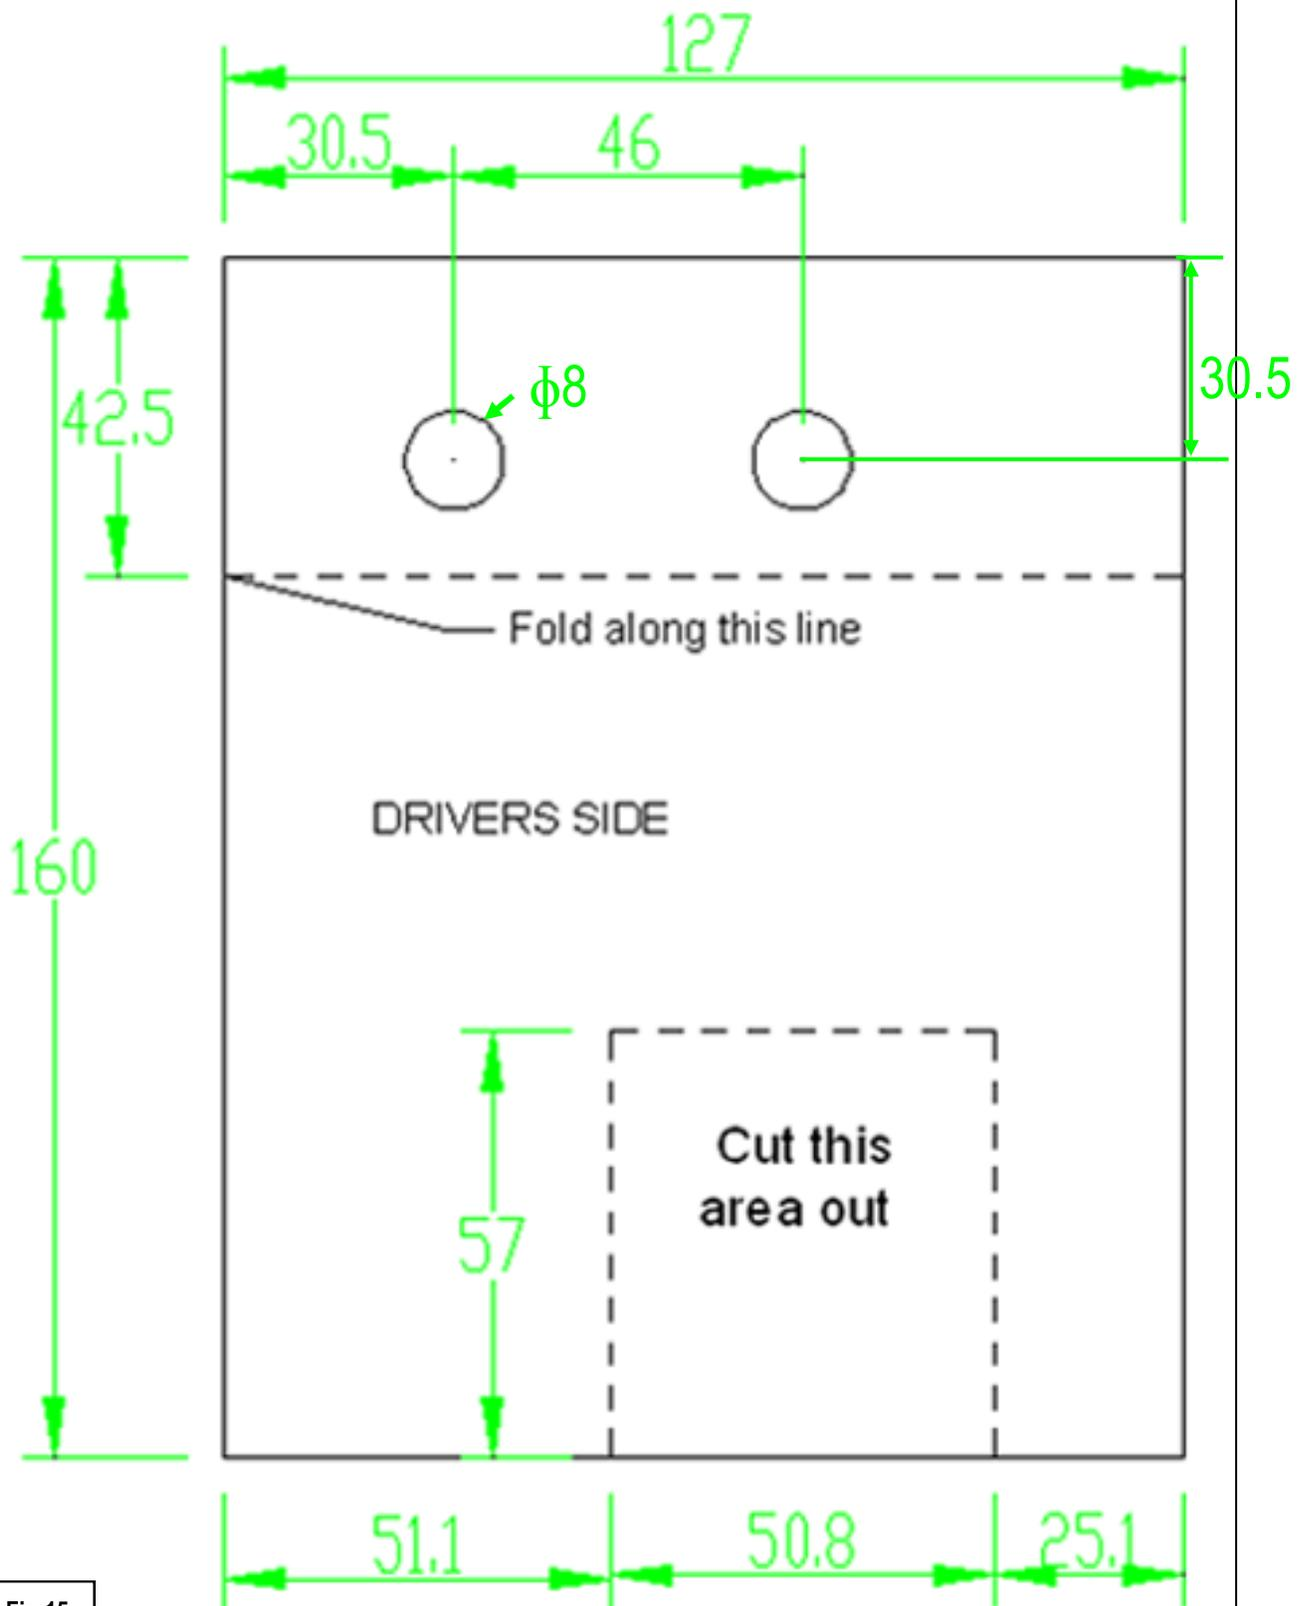

Fig 15
Cut out the paper template on **Fig 15 & 16** labeled "Driver Side". Cut out the square section on the bottom of the Template and the (2) 8mm holes on the top. Fold the top of the Template up along the dotted line, (**Fig 2**). Hold the Template in place over the outer (2) factory 8mm threaded holes next to the pinch weld, (**Figs 3 & 4**). **IMPORTANT:** There are (4) threaded holes at each mounting location, (2) inner on bottom of frame channel and (2) outer next to pinch weld, (**Fig 5**). Hold the correct Template over the outer threaded holes and up against the plastic cover, (**Fig 4**). Use a marker to trace the cut out section on the bottom of the Template onto the plastic cover. Repeat this Step to mark the rear bracket location for cutting.